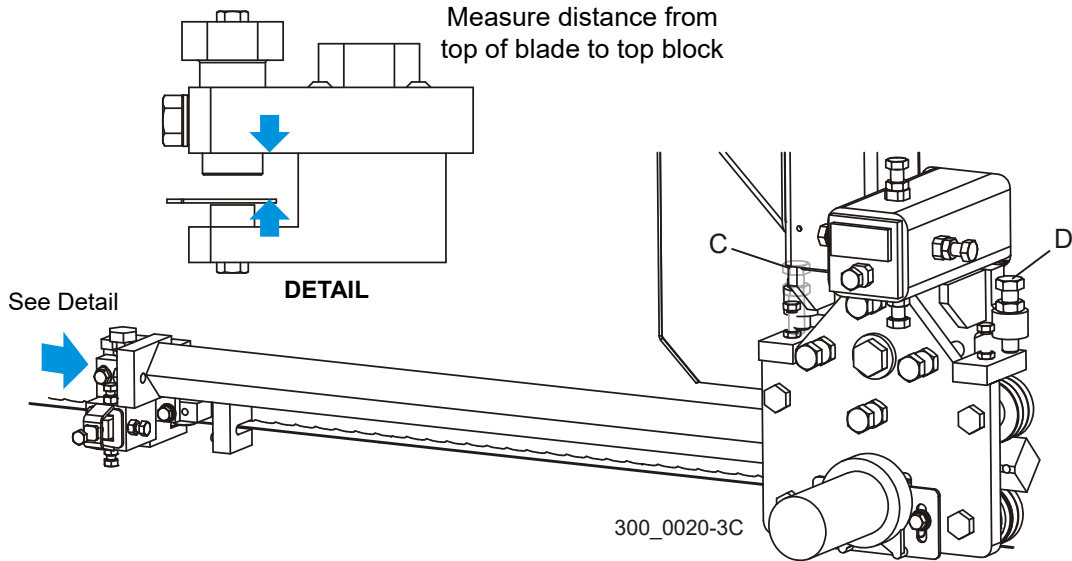

FIG. 6-34
See Figure 6-34. With the blade guide arm adjusted in near the inner blade guide, measure the distance from the top of the blade to the top blade guide block. Adjust the blade guide arm all the way out and measure again. If the two measurements are not equal with $1/32$ ", adjust the vertical tilt of the blade guide arm. To adjust the vertical tilt of the arm, adjust the bolts (C & D) on the blade guide arm mounting plate. Loosen the jam nuts. Adjust bolt (C) up and bolt (D) down to tilt the arm up. Adjust bolt (D) up and bolt (C) in to move the arm toward the blade. Recheck the distance from the blade to the top block at